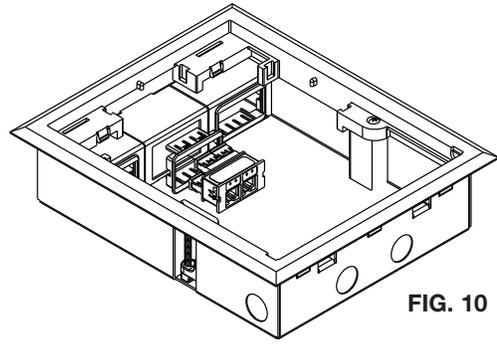

FIG. 10
Step 9 Make necessary connections to specified communication jacks (Not supplied). Snap the supplied bezel into opening followed by the device. (See Fig. 10.)